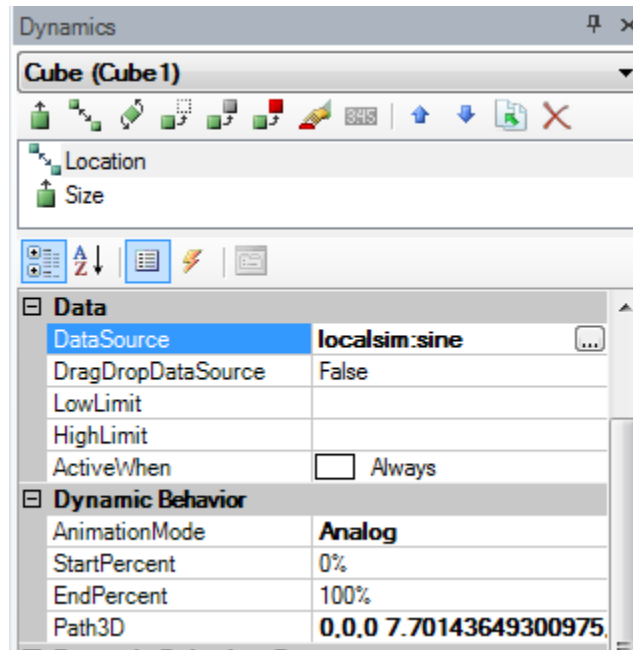

Figure L5.2 - Dynamics Properties for the Location Dynamic
12. There is nothing else that we need to change. The Dynamics Explorer for the Location dynamic should look similar to Figure L5.2.